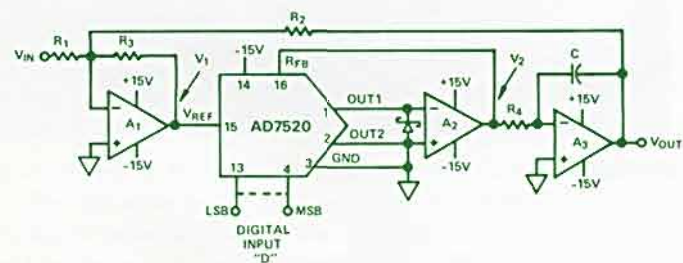

Figure 4. Digitally programmable low-pass filter.
It is well-known that analog multipliers can be used to program the gain of filters in response to analog voltage.2 If the multiplier (which serves as a voltage-controlled attenuator) is replaced by a multiplying DAC (which serves as a digitally controlled attenuator), the cutoff frequency is under digital control. Figure 4 shows a first-order filter with cutoff frequency proportional to the digital number (D); both high-pass and low-pass responses are available. If  $R_1 = R_2 = R_3 = R_4 = R$
ERRATA . . . In the ANALOG-DIGITAL CONVERSION HANDBOOK, page I-24, and the ANALOG-DIGITAL CONVERSION NOTES, page 13, there is an error in the non-inverting case in Figure 5a. For the circuit shown, the equation is:  $V_{OUT} = 2.22V_{IN} - 2.5V$ . If you need the equation,  $V_{OUT} = 2.22(V_{IN} - 2.5V)$ , which offsets the input rather than the output, change the 90k resistance to 40.5k, and the 14.21k resistance to 17.6k . . . In the AD2036 Data Sheet, Figure 4, page 4, use the complements, DATA HOLD and DATA READY, rather than the direct terminals indicated. In Figure 3, use DATA HOLD . . . In ANALOG DIALOGUE 8-1 (1974), Figure 1 on page 4, there should be an interconnection dot at the intersection of the IOUT1 line and the bus connecting the left-hand contacts of the switches . . . In the AD510 data sheet, the next-to-last paragraph on page 3 should read: "For gains of 10, the frequency response is down 3dB at 30kHz; for gains of 100, 3kHz. Full output of  $\pm 10V$  can be attained up to 1500Hz." Disregard the last paragraph . . . In the data sheet for the Model 752 Log Transconductor, Figure 2 on page 3, the ground return of A2 should be external via pin C.